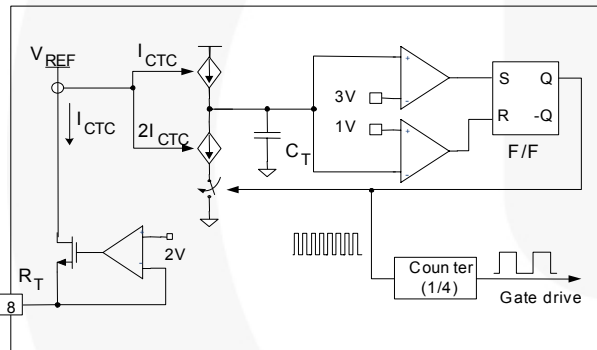

Figure 16. Current Controlled Oscillator
2. Internal Oscillator: FAN7621S employs a current-controlled oscillator, as shown in Figure 16. Internally, the voltage of R_T pin is regulated at 2V and the charging / discharging current for the oscillator capacitor, C_T , is obtained by copying the current flowing out of R_T pin (I_{CTC}) using a current mirror. Therefore, the switching frequency increases as I_{CTC} increases.